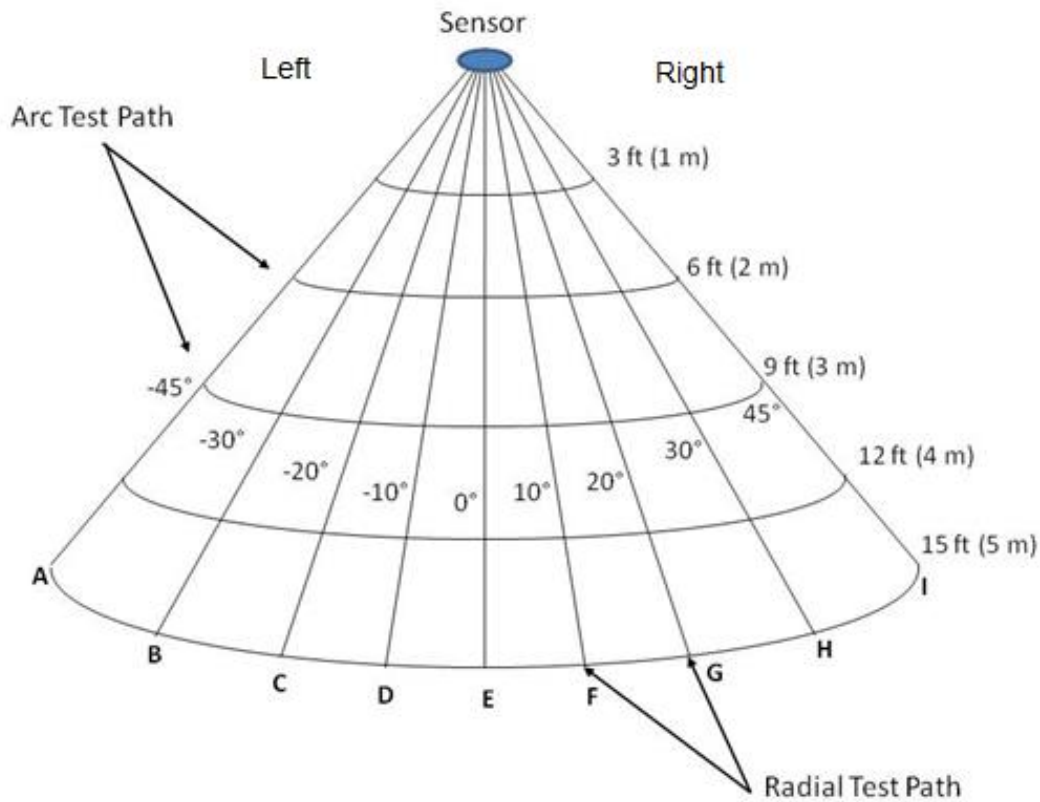

Figure 1: Passive Infrared Sensor Test Grid and Test Locations
- Test locations for the PIR sensor:** Because of time constraints, test locations have been determined for you (Table 1). Figure 1 shows test locations.
Figure 1 shows the PIR test grid and test locations to be used in this performance test. Table 1 lists the test locations to be used.